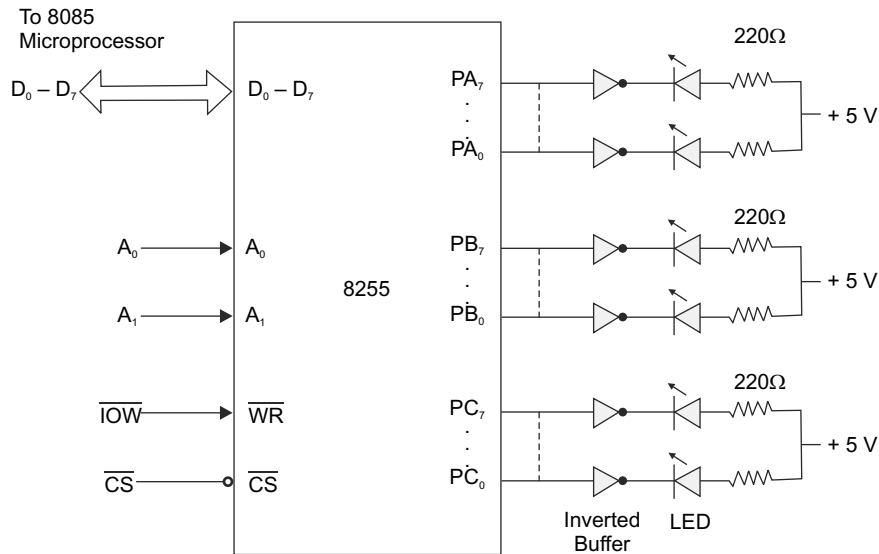

Fig. 10.63 The interfacing circuit for traffic light control
the required lane and the yellow (Y) signal is used as standby, which indicates that the traffic must wait for the next signal. The green (G) light for a particular lane remains ON for DELAY-1 seconds followed by the standby signal for DELAY-2 seconds. However, at a time for 3 out of the four roads, the left signal or the left arrow remains on even though that lane may have a red signal. The traffic light control is implemented using the 8085 microprocessor kit having 8255 on board and the interfacing circuit is illustrated in Fig. 10.63. Each